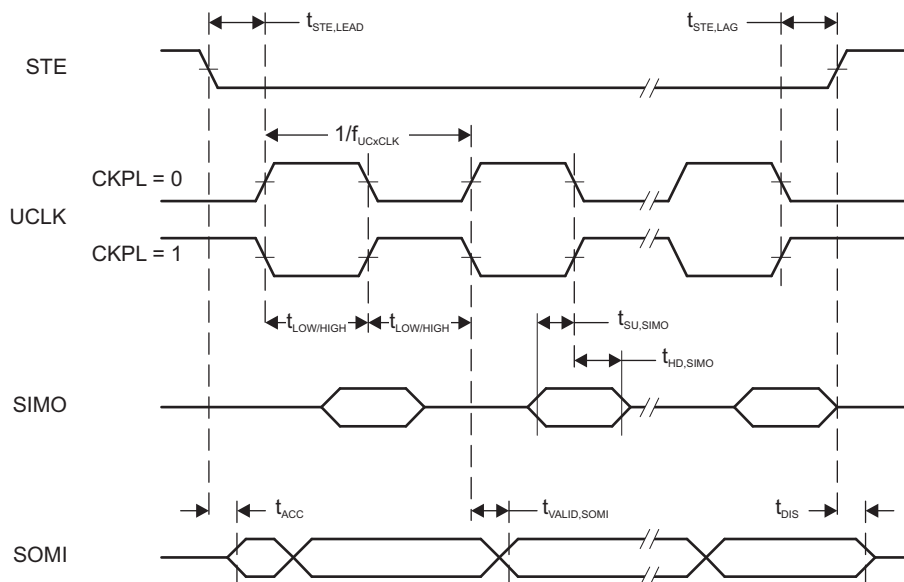

Figure 5-11. SPI Slave Mode, CKPH = 0
(1) $f_{UCXCLK} = 1/2t_{LO/HI}$ with $t_{LO/HI} \geq \max(t_{VALID,MO(Master)} + t_{SU,SI(eUSCI)}, t_{SU,MI(Master)} + t_{VALID,SO(eUSCI)})$ For the master parameters $t_{SU,MI(Master)}$ and $t_{VALID,MO(Master)}$, see the SPI parameters of the attached master.(2) Specifies the time to drive the next valid data to the SOMI output after the output changing UCLK clock edge. See the timing diagrams in Figure 5-11 and Figure 5-12.(3) Specifies how long data on the SOMI output is valid after the output changing UCLK clock edge. See the timing diagrams in Figure 5-11 and Figure 5-12.